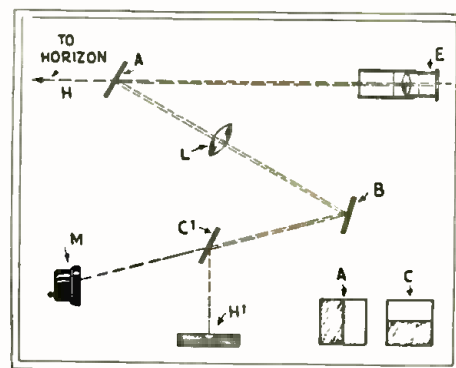

Fig. 2
horizon; at the same time, the horizon (H) is caused to coincide with the intersection of the cross-hairs in the field of view of the instrument (Fig. 2.) An adjustment is sought, in the light of the observer's estimated position; and then the screw is turned until the horizon appears in its correct place. The sun's elevation is then read off on the scale below, and the usual corrections and calculations of the navigator are carried out. As a matter of fact, this method of measurement eliminates the calculation for variation of the solar diameter.
Should the actual horizon be invisible, then resort to the method of an "artificial horizon" must be sought. This is found by means of a small level in the base of the instrument. The reflection of its bubble (H'—Fig. 2) is brought up to the horizon line; the insertion of a simple slide behind the half-mirror A serving to divert the optical train from the actual horizon to the bubble.
variable condensers are automatically opened; this is made clear by reference to Fig. 2, which shows the circuit-closing jumpers on the two "broadcast-band" coils. The operation then is somewhat different: the little "trimmer" condenser, C1, becomes the "antenna tuning" condenser; and C4, the small section of C3-C4, is the only tuning capacity in shunt to I.3. Condensers C2,